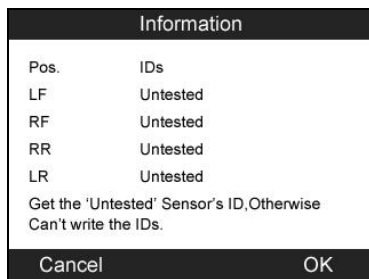

Figure 3.24
- a) When users try to run the **Write IDs to Vehicle** function before all sensors' activation is completed or successful, the ID information screen will display the sensor IDs as **Untested**, and require users to reactivate the sensors. (Figure 3.24) Press the **Y** button to continue the process, or press the **N** button to exit.